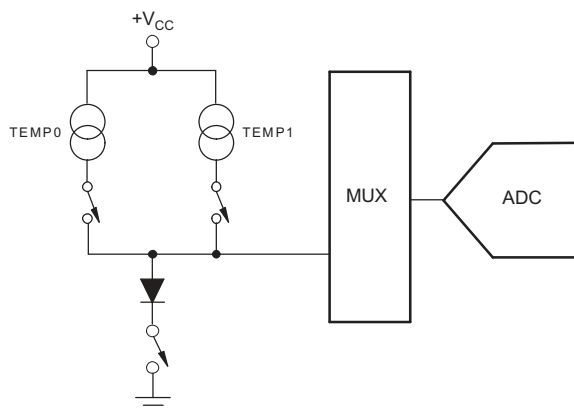

Figure 6. Temperature Measurement Functional Block Diagram
In some applications, such as battery recharging, a measurement of ambient temperature is required. The temperature measurement technique used in the TSC2046E relies on the characteristics of a semiconductor junction operating at a fixed current level. The forward diode voltage ( $V_{BE}$ ) has a well-defined characteristic versus temperature. The ambient temperature can be predicted in applications by knowing the +25°C value of the  $V_{BE}$  voltage and then monitoring the delta of that voltage as the temperature changes. The TSC2046E offers two modes of operation. The first mode requires calibration at a known temperature, but only requires a single reading to predict the ambient temperature. A diode is used (turned on) during this measurement cycle. The voltage across the diode is connected through the MUX for digitizing the forward bias voltage by the ADC with an address of A2 = 0, A1 = 0, and A0 = 0 (see Table 1 and Figure 6 for details). This voltage is typically 600mV at +25°C with a 20µA current through the diode. The absolute value of this diode voltage can vary by a few millivolts. However, the temperature coefficient (TC) of this voltage is very consistent at -2.1mV/°C. During the final test of the end product, the diode voltage would be stored at a known room temperature, in memory, for calibration purposes by the user. The result is an equivalent temperature measurement resolution of 0.3°C/LSB (in 12-bit mode).